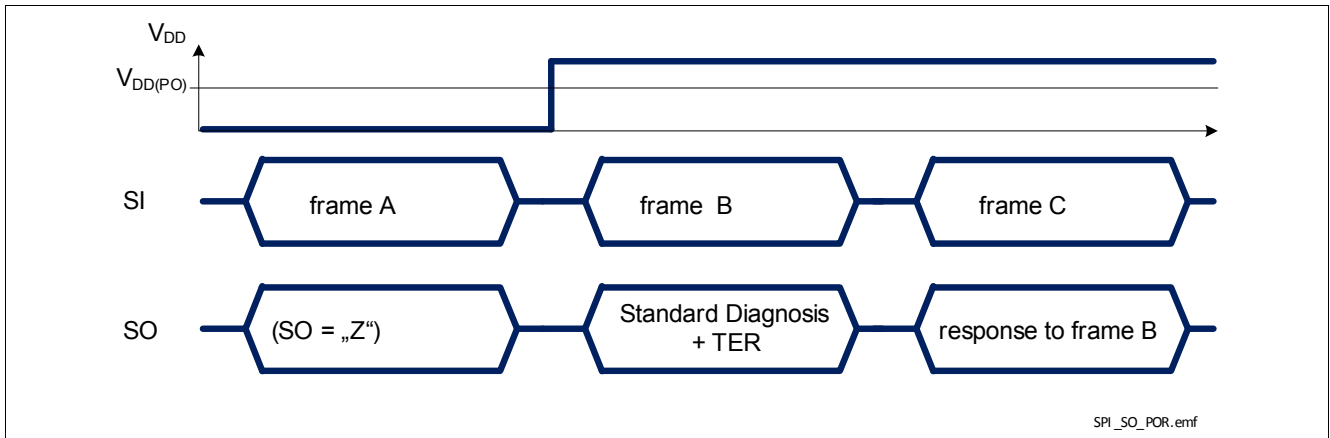

Figure 33 BTS54040-LBA response after coming out of Power-On reset at V_{DD}
- when BTS54040-LBA logic supply comes out of Power-On reset condition, as shown in Figure 33